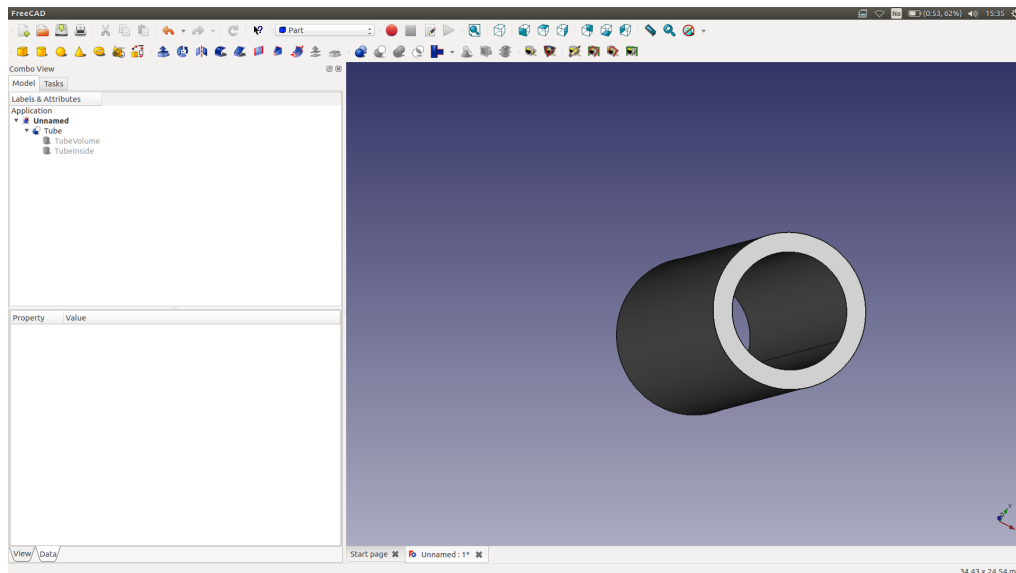

Figure 2: The goal of Tutorial 1: build a pipe from a boolean difference.
- Select first the TubeVolume you created and then, holding the Ctrl key, the TubeInside so that both shapes are selected at one. Then, click the **Make a cut of tow shapes** button. This will create a new object, called **Cut**, in the Model tab. Rename it to **Tube**. You can expand the details of you Tube by clicking on the little triangle before its name. You can then display the hierarchical graph of you object. The graphical display of your object should look like in Fig. 2